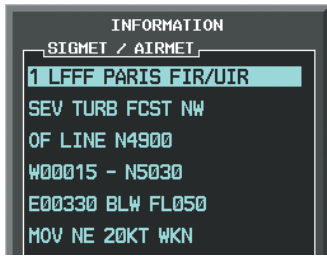

Figure 6-75 Sample SIGMET Text
- 4) Press the **ENT** key. Figure 6-75 shows sample SIGMET text.